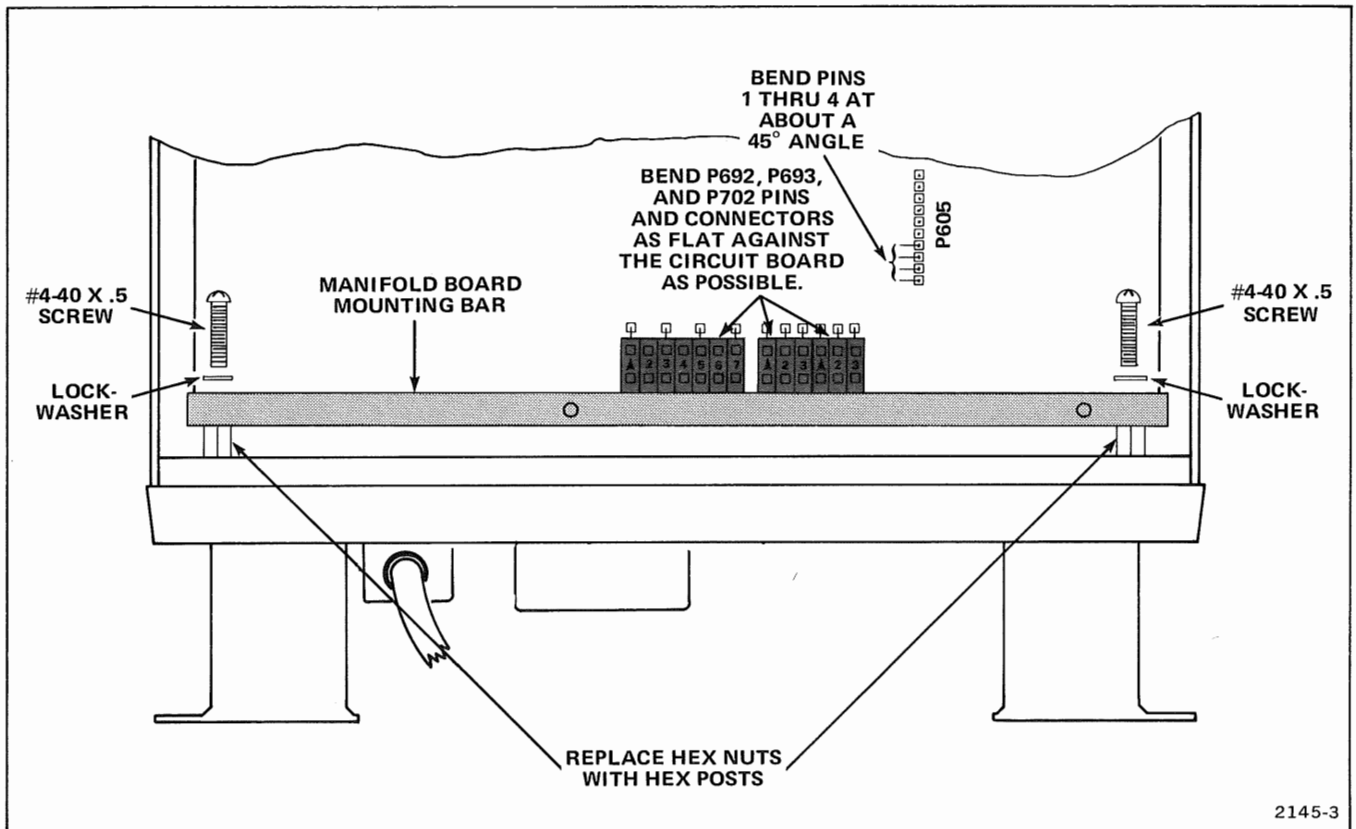

Figure 1-12. Installing Manifold Board mounting bar.
6. Bend down pins on P605, P692, P693, and P702 and install Manifold Board mounting bar as shown in Figure 1-12.